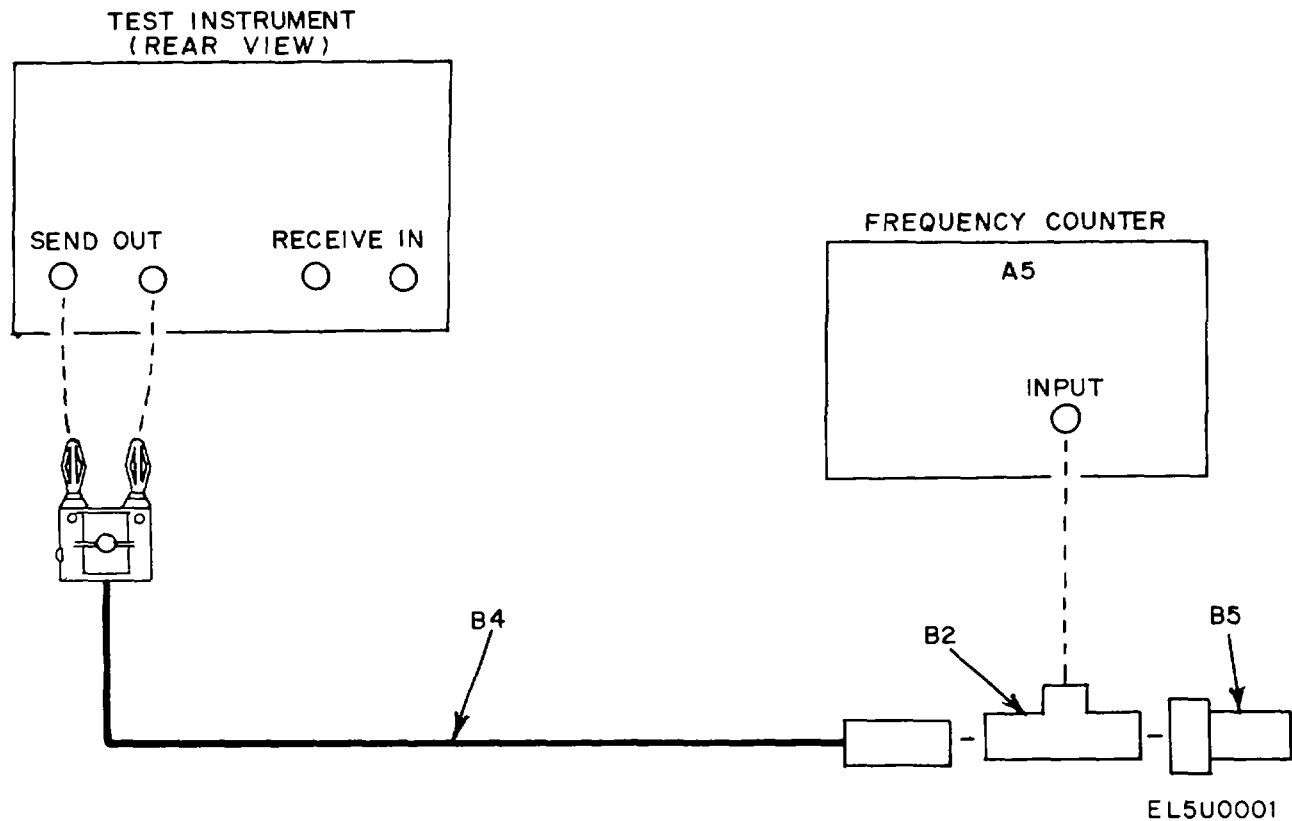

Figure 1. Oscillator frequency check - equipment setup
(1) Connect equipment as shown in figure 1